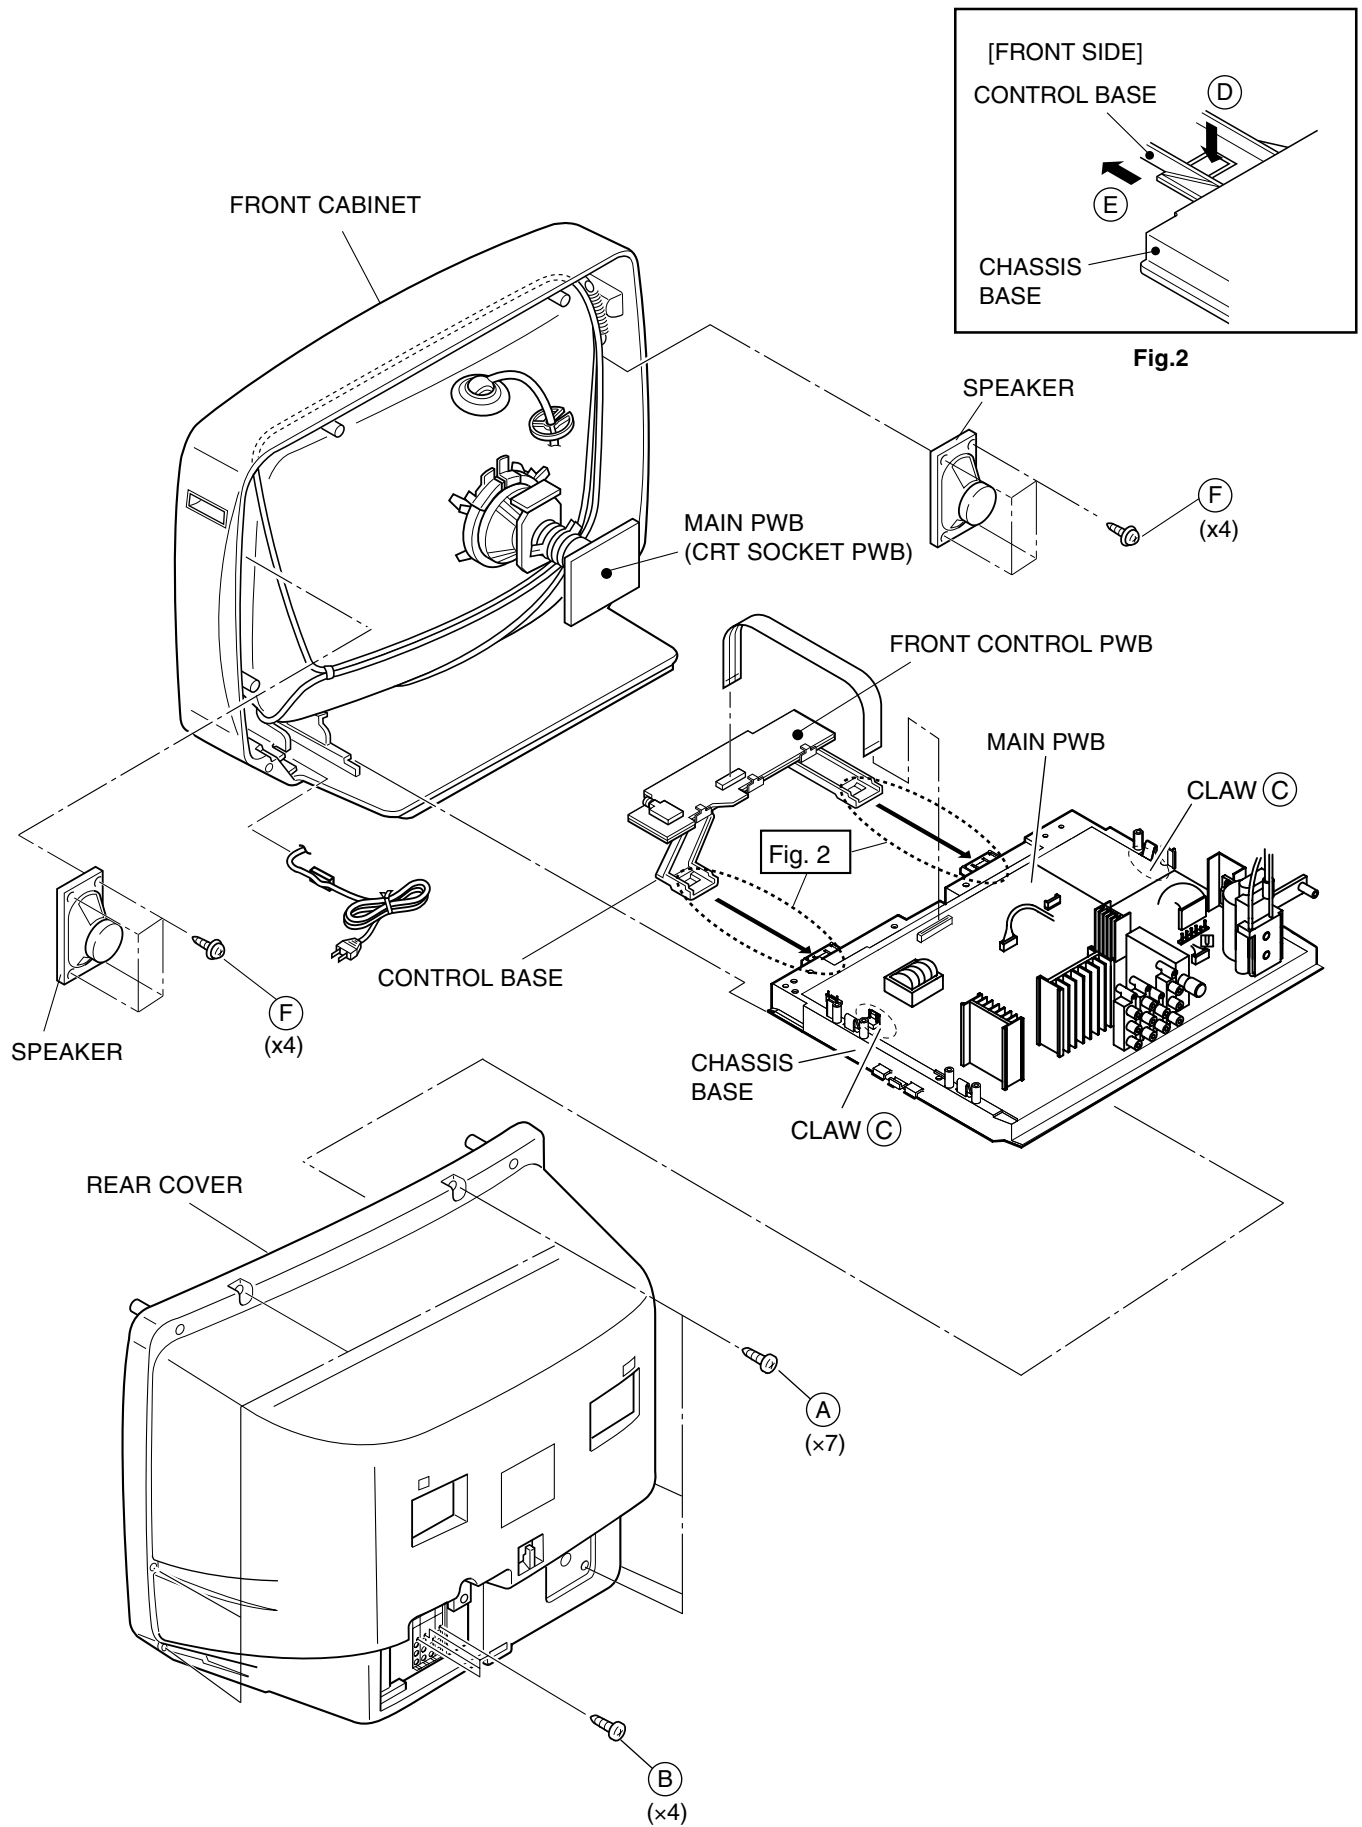

Fig.1
2. Remove the 7 screws marked (A) and 4 screws marked (B) as shown in Fig.1.
1. Slightly raise the both sides of the chassis by hand and remove the 2 claws marked (C) under the chassis from the front cabinet as shown in Fig.1.
1. Remove the 4 screws marked (F) as shown in Fig.1.